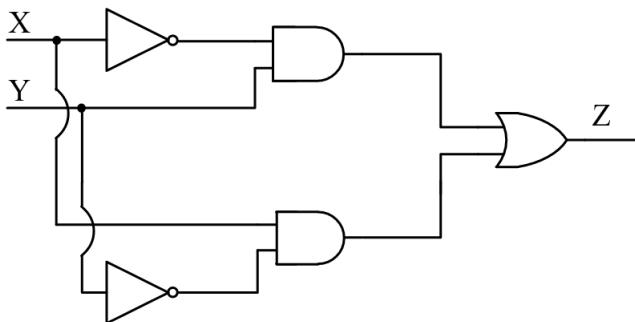

Fig. 3.7
19. Find the logic function implemented by the circuit given below in Fig. 3.7